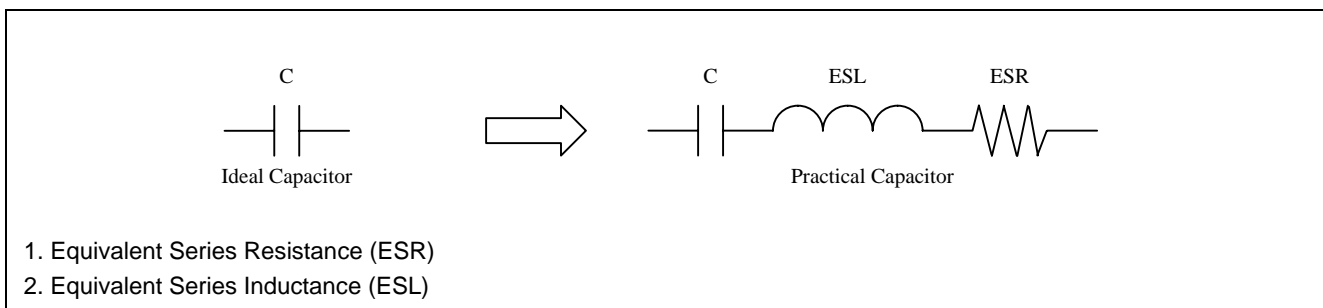

**Figure 10 Split Supplies**
- A simple method for controlling noise is to have separate supplies for the (i) slower low-current analog functions and (ii) faster medium-power digital functions as shown in Figure 10.